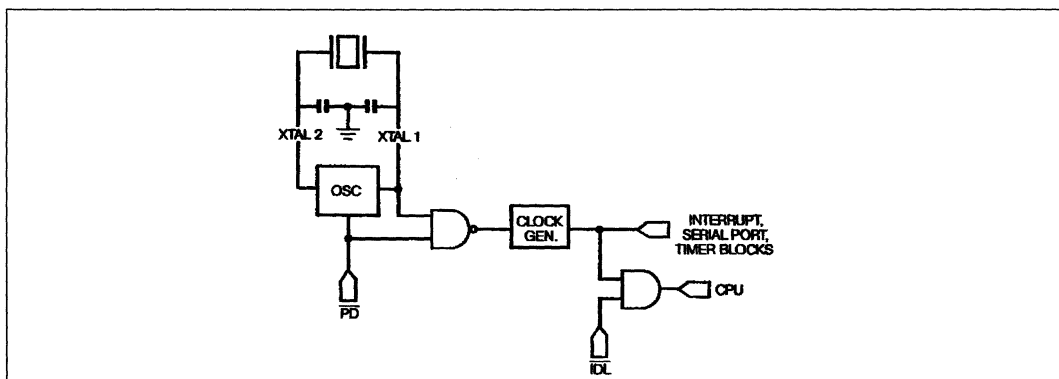

Figure 40 : Principle of the IDLE and POWER-DOWN Modes.
- For applications in which power consumption is a critical parameter, the MHS C51 family offers two power-saving modes : IDLE and POWER-DOWN. Figure 40 illustrates the principle used for implementing these two modes.